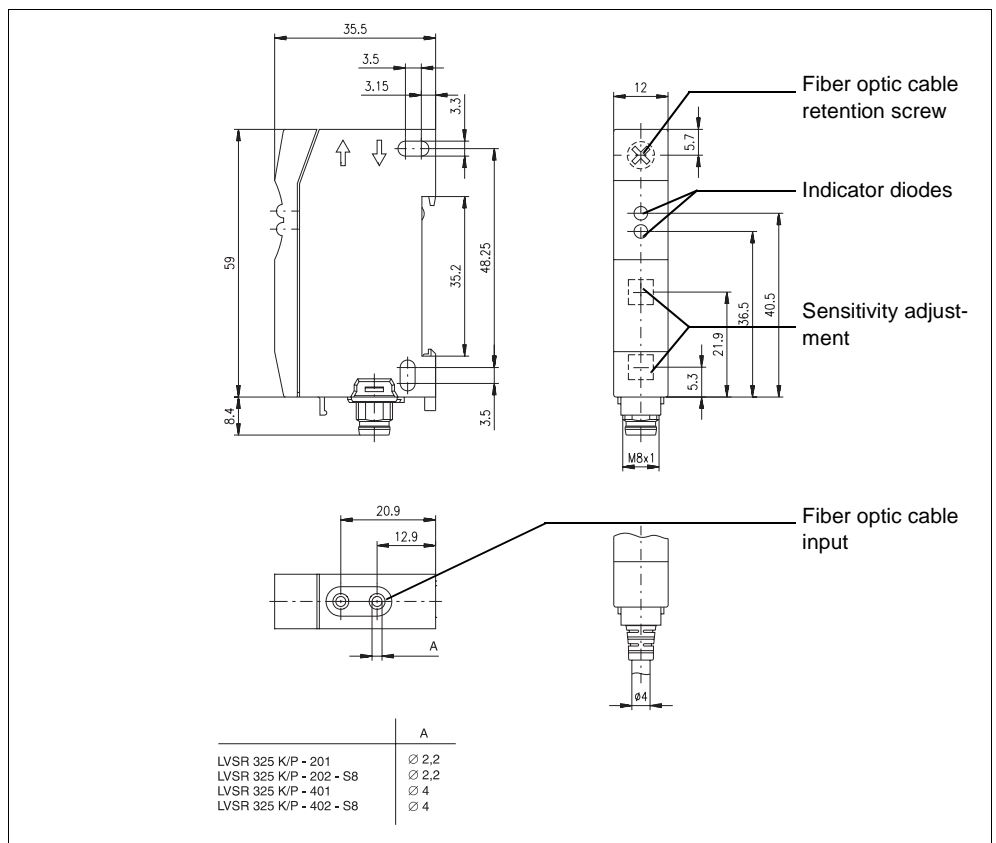

Figure 4.2: Dimensioned drawing LVSR 325
- ☞ Lead both ends of the fiber optic cable into the fiber optic cable inputs of the sensor. Turn the retention screw 90° in a clock-wise direction (See figure 4.2).